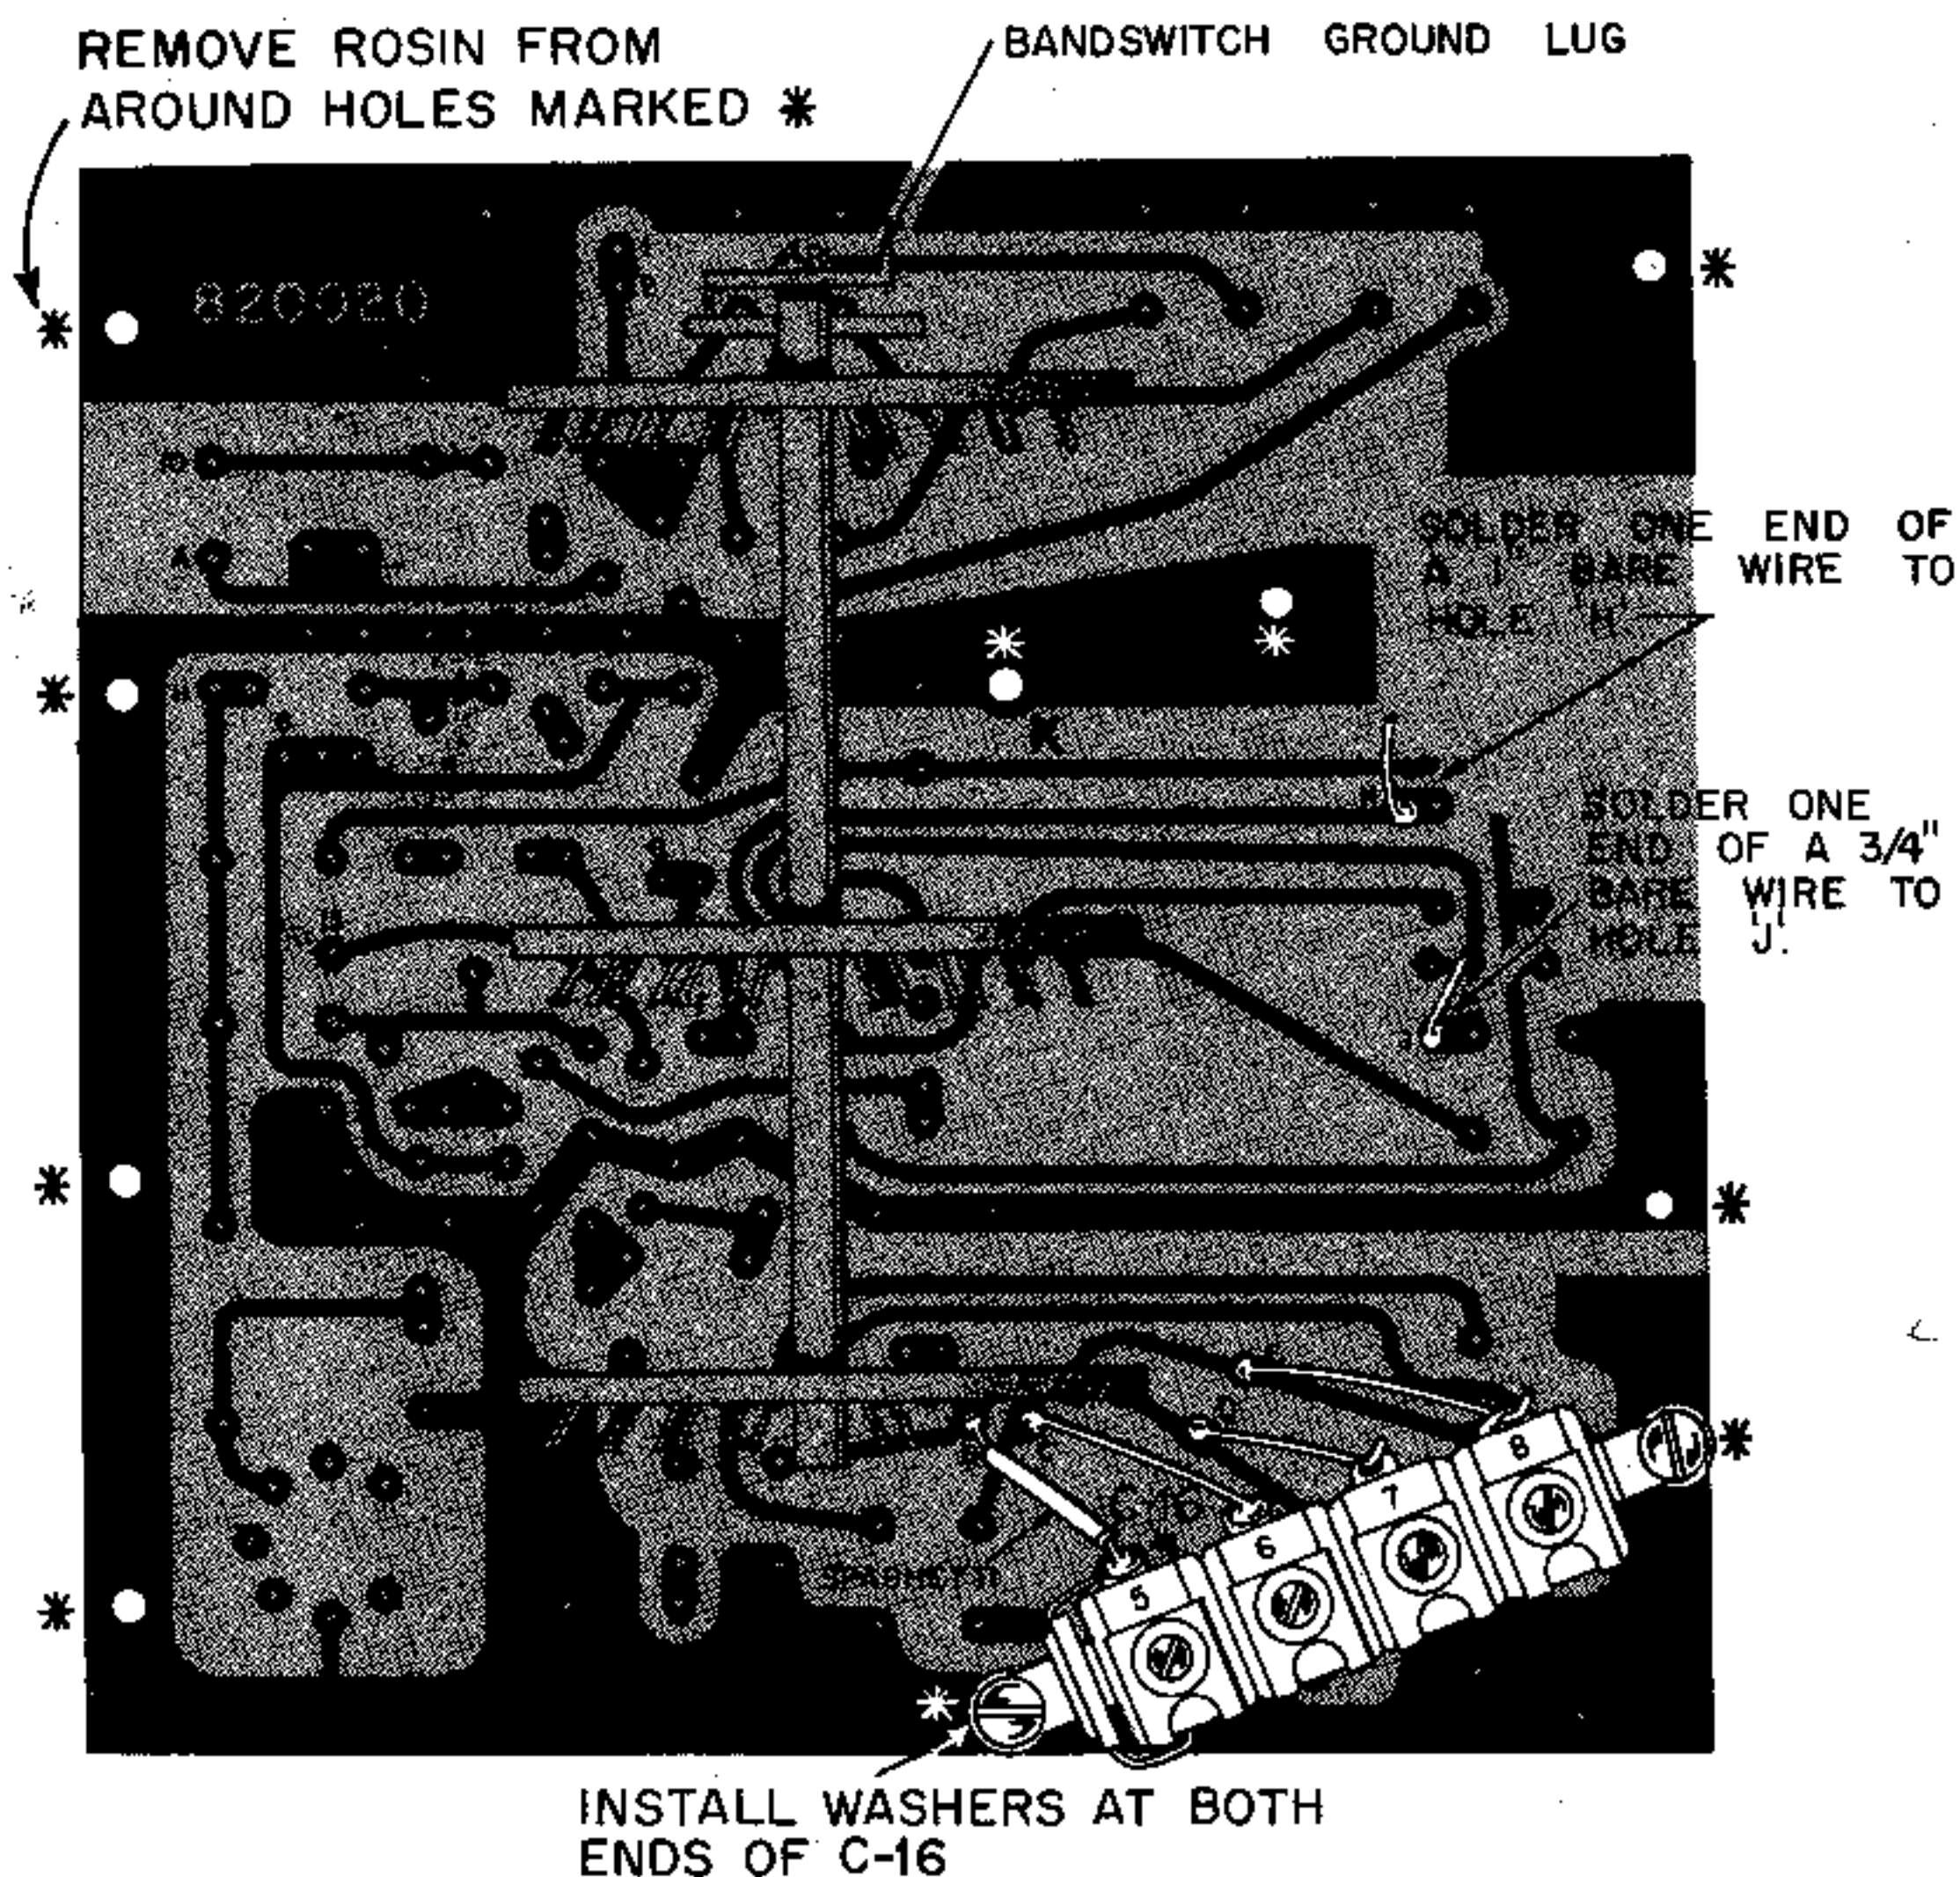

FIGURE 15. MOUNTING C-16 (TRIMMER STRIP)
SEE FIGURE 15.
- Good electrical contact between the foil side of the RF board and the RF subchassis is necessary for proper operation of your receiver. The foil side of the RF board may be coated with a protective layer of rosin. Remove it by lightly touching your hot soldering iron around the holes marked with an asterisk (*) as shown in Figure 15. The rosin will melt and a clean, shiny spot will appear.